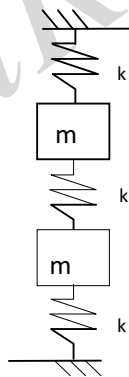

Fig. 1
3. (a) Find the principal coordinates, for the system shown in Fig. 1. [10]